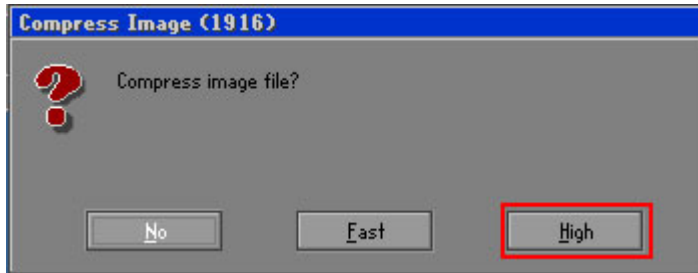

Figure C-14: Compress Image
Step 8: When the Compress Image screen in **Figure C-14** prompts, click **High** to make the image file smaller.